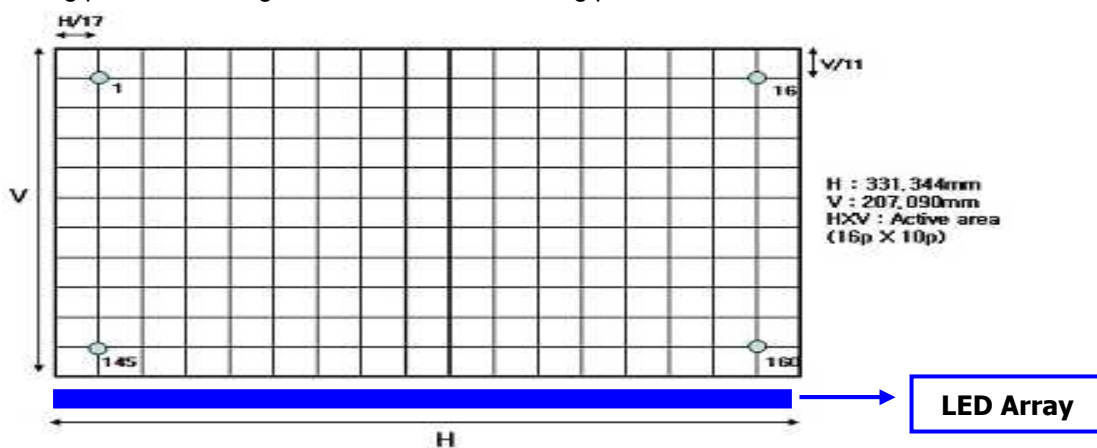

FIG. 3 Response Time
| Response time | | Tr _R + Tr _D | – | – | 16 | 25 | ms | Fig 3 |
2. Response time is the time required for the display to transition from white to black (rise time, T_{R}) and from black to white(Decay Time, T_{D}). For additional information see FIG 3.